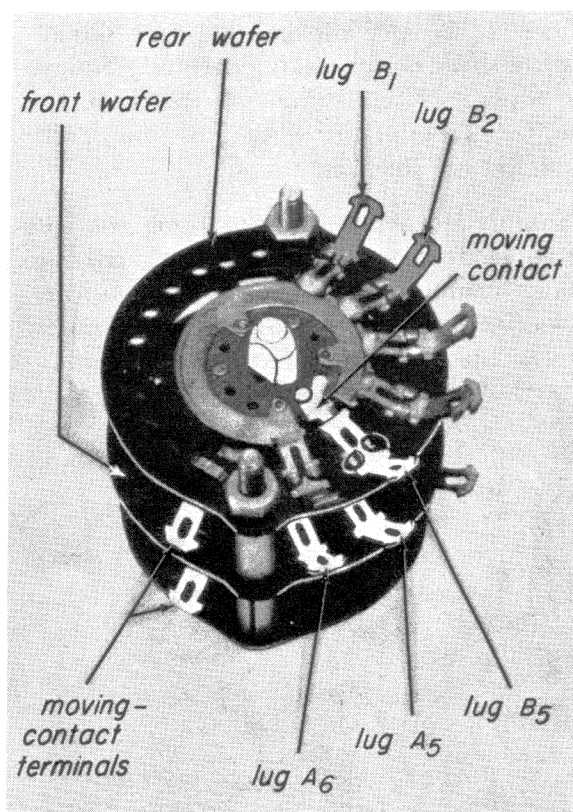

Fig. 21-1
In this section, you will assemble and wire the tuning-assembly plate on which the bandswitch, coils, and tuning capacitor are mounted. These components determine the r-f oscillator frequency. This frequency depends on the coil, which is connected across the tuning capacitor by the bandswitch, and on the setting of the tuning capacitor. The bandswitch has six positions, of which five are used for Bands A to E. When only audio output is desired, the X position is used to turn off the r-f oscillator. The bandswitch shown in Fig. 21-1 is a two-wafer six-position rotary switch. In order to wire the switch you must learn to identify the various
Step 2. Mount a pointer knob on the switch shaft and rotate the switch till the moving contact is connected to lug 5 as shown in Fig. 21-1. Remove the knob.